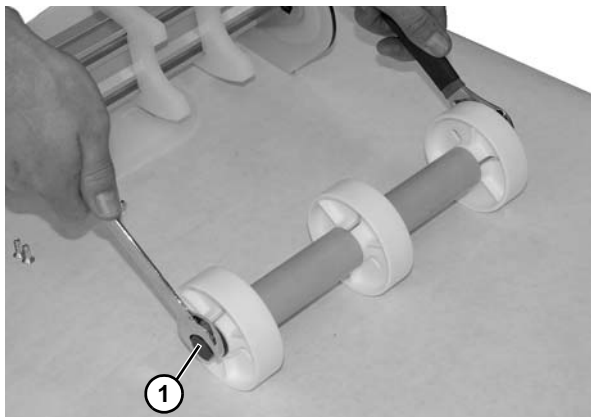

Figure 82
9. Use wrenches to remove both bolts (**Figure 82, item 1**) from each side of roller assembly.